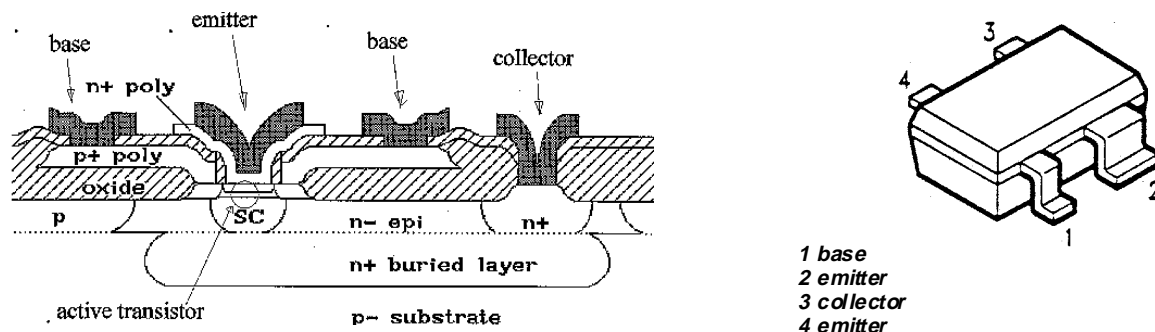

Figure 1: Cross section and package of the double-poly buried layer RF transistors.
This note describes the application of two of the new 5th generation silicon bipolar RF transistors in SOT343R plastic SMD package in a two-stage power amplifier (PA), designed for use in DECT cordless telephone systems. These transistors, manufactured according to the new *double-poly* process, are characterised by their high transition frequency ($f_T > 20$ GHz) at low supply voltages, resulting in a superior power gain at microwave frequencies, usually a field dedicated to GaAs-devices. Two layers of polysilicon are used: one for contacting the base, yielding a low base resistance and one to form the emitter, resulting in a steep emitter dope profile and an effective emitter width of 0.5 μm . A buried N-layer (collector) is placed within a P-substrate, which is connected to the emitter package lead, which enables the die to be placed on the ground plane, reducing emitter inductance and thermal resistance. Figure 1 shows a cross section of a *double-poly* buried layer transistor.